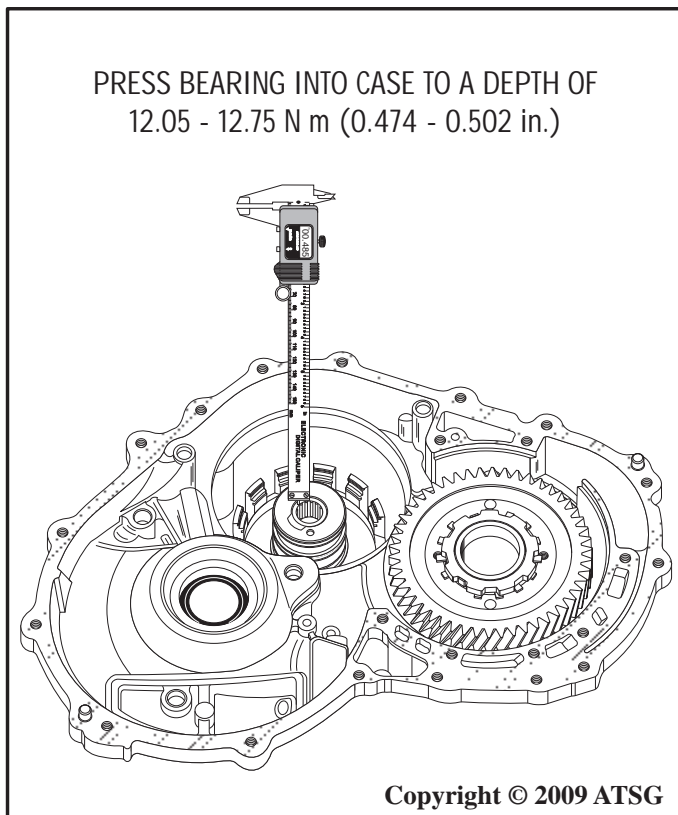

Figure 185
77. Install new bearing (if necessary) using SST 09950-60010, (09951-00320), 09950-70010 (09951-07100) or a similar driver and install the needle bearing into the transaxle case as shown in Figure 185.
78. Use a dial caliper to obtain proper bearing depth in the case. Refer to Figure 185 for reference.